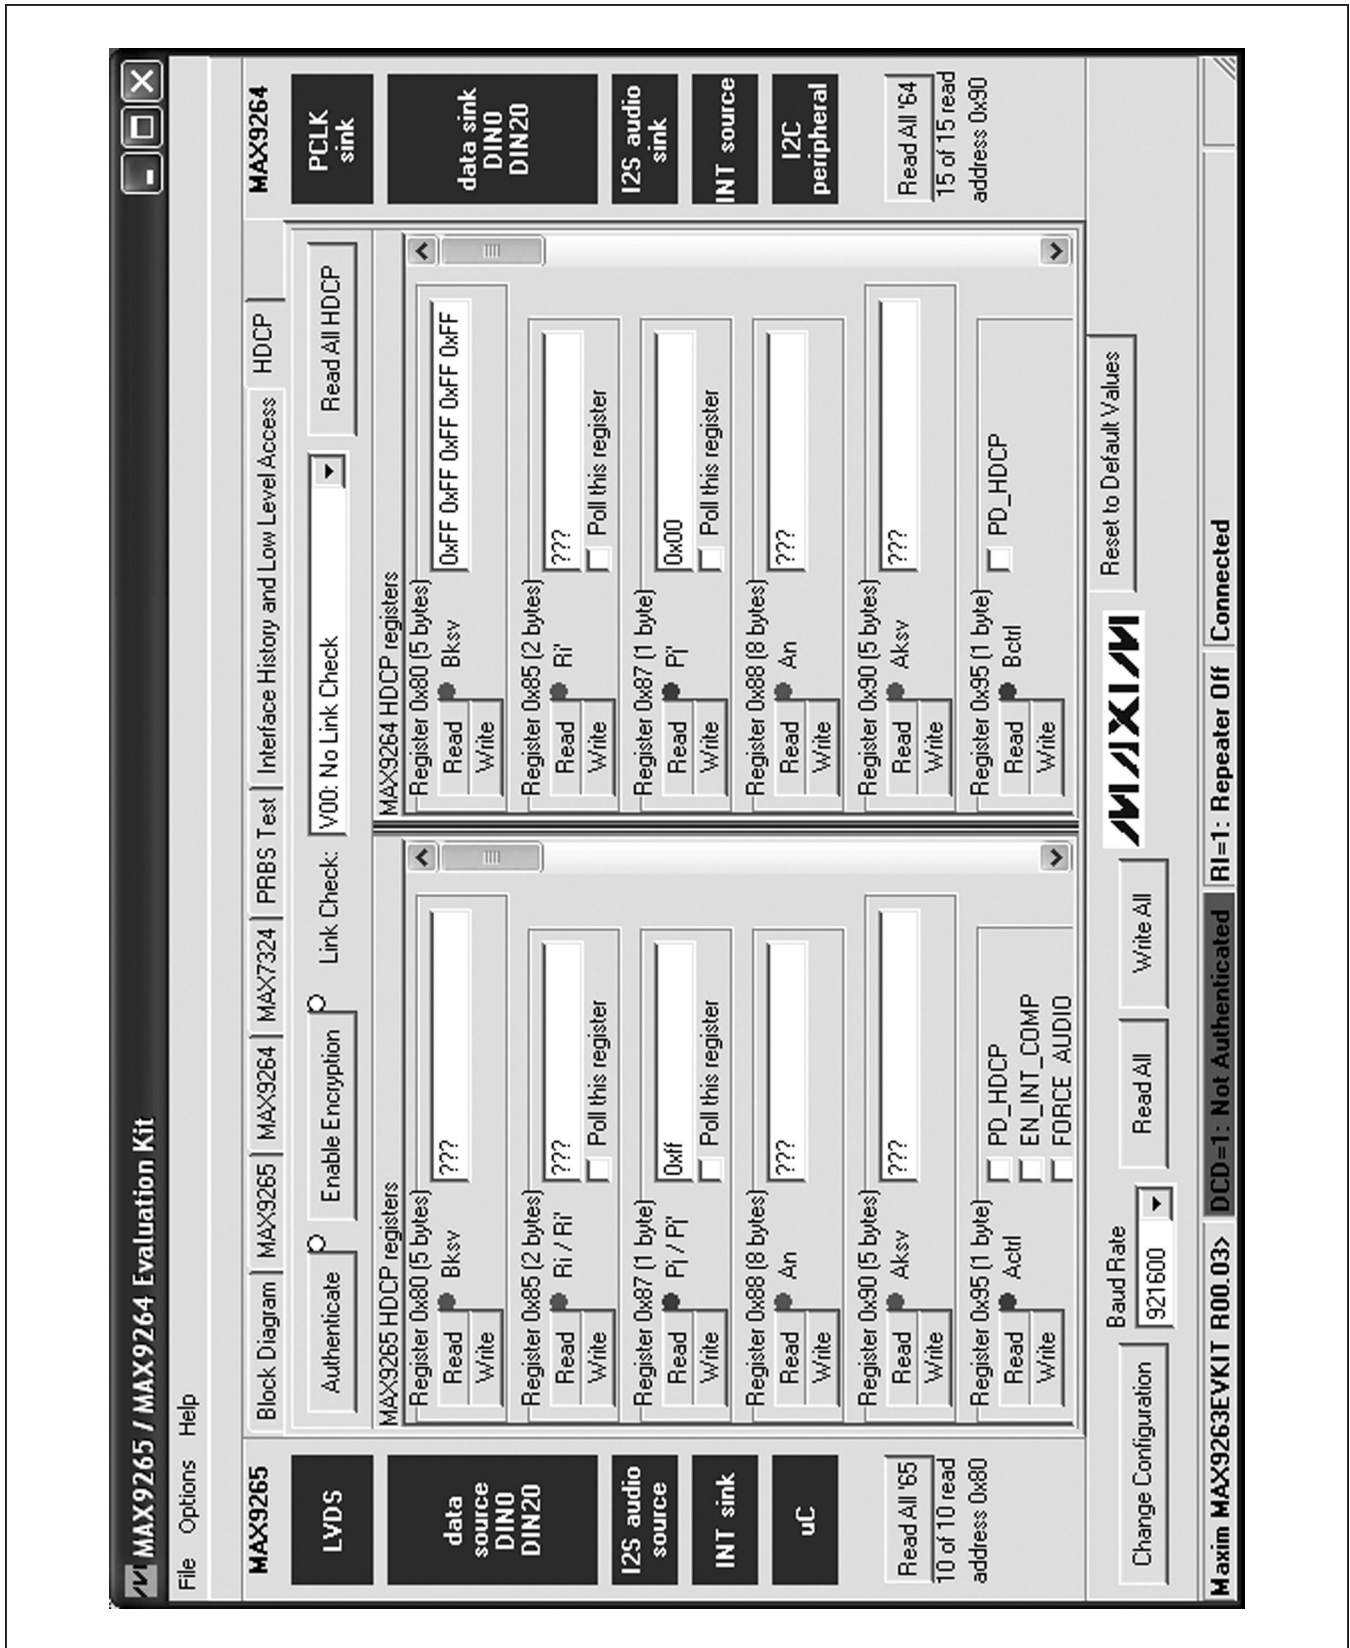

Figure 7. MAX9265/MAX9264 EV Kit Software Main Window (HDCP Tab)
- 15.6) On the HDCP tab sheet (Figure 7), verify that HDCP authentication between Board #1 and Board #2 is successful. The corresponding
The **HDCP** tab sheet (Figure 7) shows the HDCP registers of both the MAX9265 serializer and the MAX9264 deserializer side-by-side. This tab sheet is removed if the device capabilities register does not indicate that the device supports HDCP, so if the software is used with the MAX9259, MAX9260, MAX9249, or MAX9268, this tab sheet is not visible. Many of the HDCP registers are displayed as multiple hexadecimal bytes, with a 0x prefix before each byte and spaces between bytes. The **Authenticate** button commands the firmware to perform HDCP authentication, using either internal or external comparison depending on the **EN\_INT\_COMP** bit in the Actrl register. The **Enable Encryption** button waits for a falling edge on VSYNC and then writes to the MAX9265 Actrl and MAX9264 Bctrl registers, with the encryption enable bit set to 1. When the button caption changes to **Disable Encryption**, operation is the same except that the encryption enable bit is cleared to 0. After encryption is enabled, registers 0x85 and 0x87 are repeatedly polled as long as each register's **Poll this register** checkbox remains checked. The **Link Check** drop-down list configures the optional HDCP link integrity check, and can be used to check the R values every 128 VSYNC falling edges or check the P values every 16 VSYNC falling edges.